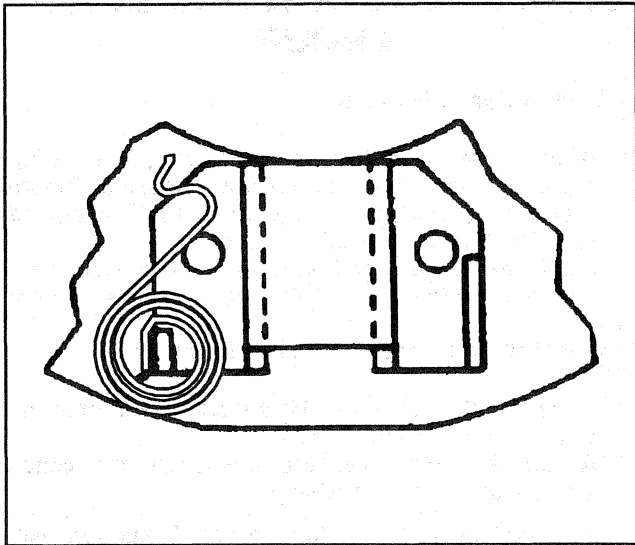

Figure 15—Brush Spring on the Post
- Start each brush spring onto the post on the brush holder assembly just enough to hold the inside end of spring from turning as shown in Figure 15.